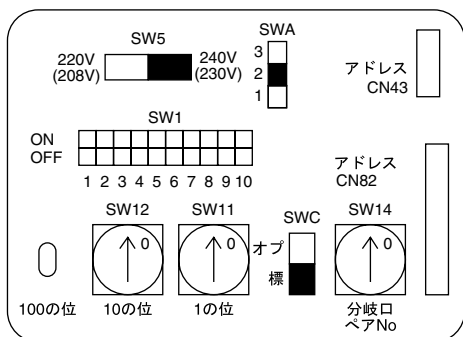

Fig. 6-6
6.4. Setting addresses (Fig. 6-6)